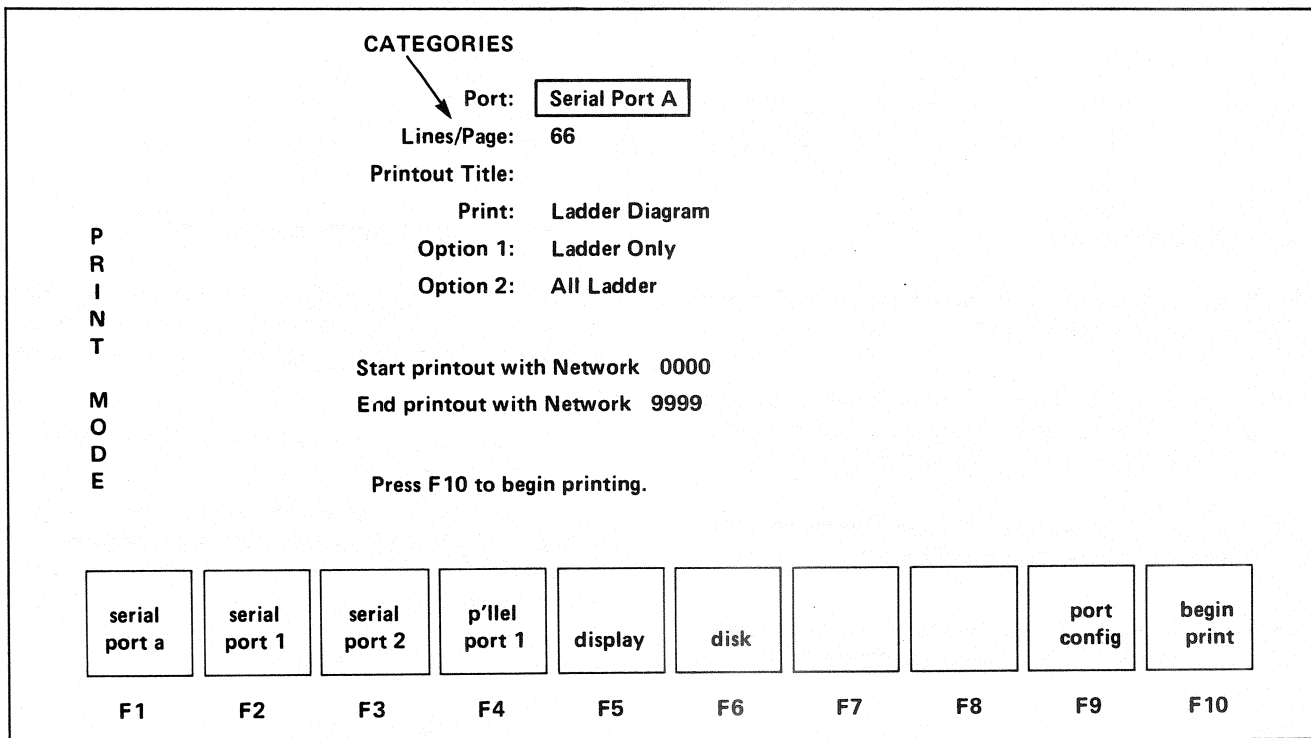

Figure 13-1. Print Mode's Primary Screen
Press Y (yes) if networks are to be renumbered—as may be the case after editing. After some brief messages concerning the status of the renumbering operation, the screen shown in Figure 13-1 is displayed.
Press N (no) if network renumbering is not desired or necessary. At this time, the screen shown in Figure 13-1 is displayed directly without a renumbering operation.
When the Print mode's primary screen, shown in Figure 13-1, is displayed, one of the categories listed in Table 13-1 is selected using the ↑ and ↓ keys of the cursor/number pad keys in order to position the cursor. In cases where the selection categories are more involved, the Table references Paragraphs containing additional information.
**Step 1** — Select the desired port by pressing the appropriate F1 thru F4 function key when the Print mode's primary screen, shown in Figure 13-1, is displayed, and the cursor is positioned on the Port category line.
The default Print screen selections are shown in Figure 13-1. If no selections are made and the F10, begin print, function key is pressed, the ladder diagram including UDSF subroutines are printed using Serial Port A.
**Step 1** — Display the Print mode's primary screen, as shown in Figure 13-1.